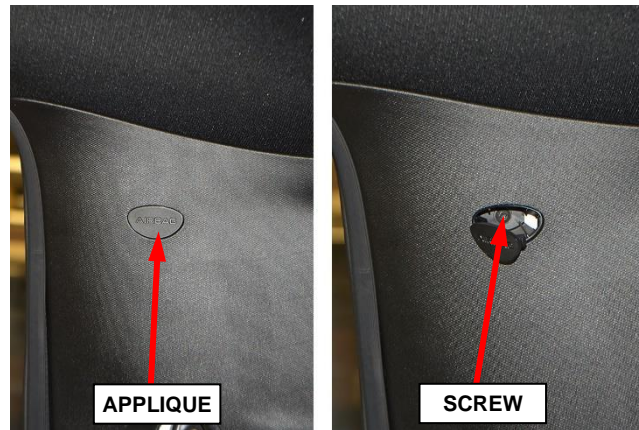

Figure 10 – C-Pillar Upper Trim Panel
- Using a trim stick or equivalent, release the C-pillar airbag applique then remove the screw that secures the upper trim panel (Figure 10).
43. Install and tighten the screw that secures the C-pillar upper trim panel. Then install the airbag applique (Figure 10).